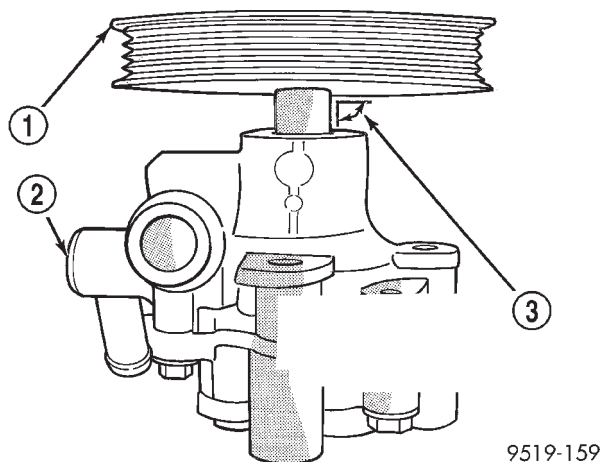

Fig. 25 Pulley Positioned On Shaft Of Power Steering Pump
(2) Place power steering pump pulley squarely on end of power steering pump shaft (Fig. 25).